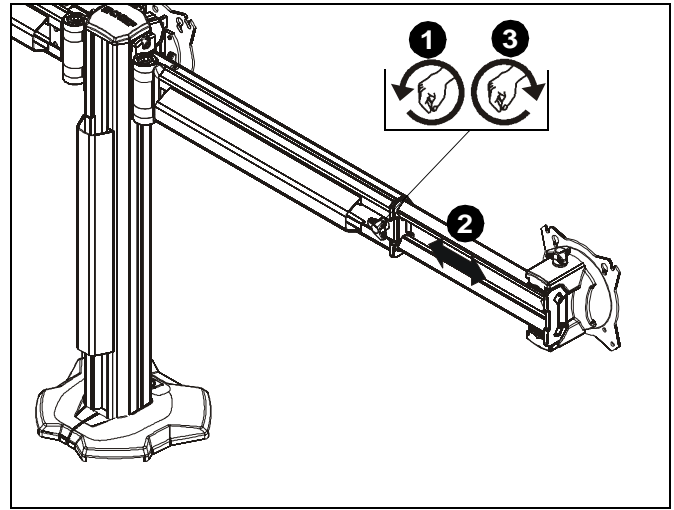

Figure 17
- Turn arm extension adjustment knob counter-clockwise on arm to be adjusted. (See Figure 17)
- Adjust arm extension as desired. (See Figure 17)
- Turn arm extension adjustment knob clockwise on adjusted arm to lock position. (See Figure 17)